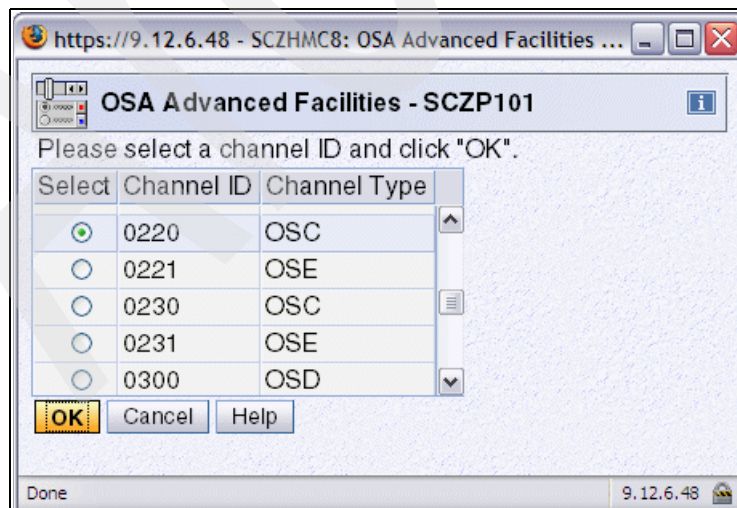

Figure 4-38 HMC - OSA Advanced Facilities (OSC Channel)
- Click the radio button for the Channel ID card that you want to export, then click **OK** (Figure 4-38).